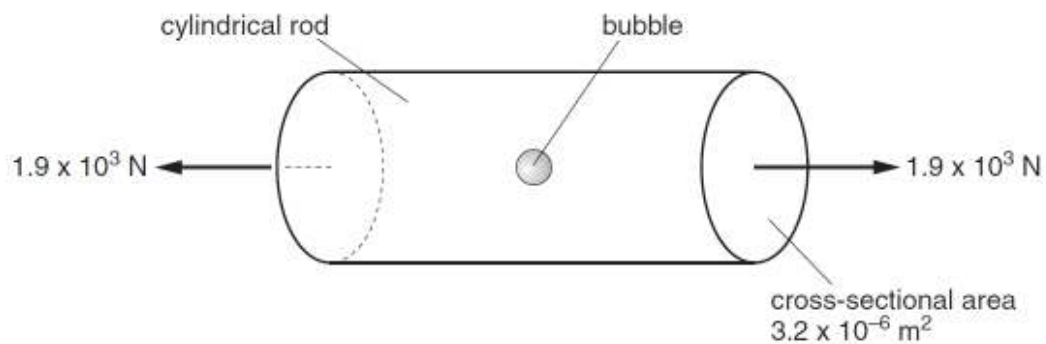

Fig. 4.2
- (c) A second cylindrical rod of the same material has a spherical bubble in it, as illustrated in Fig. 4.2.